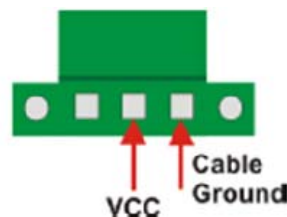

Figure 8 - MBB100 Power Terminal Block
- 1) Directly with 9-32VDC power source using the green power terminal block found on the rear panel of the MBB100 (see Figure 8).